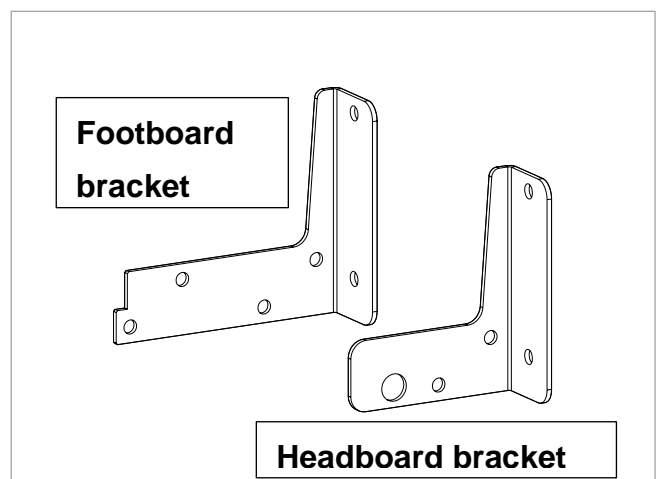

Figure 8.2
3. The headboard and footboard brackets have different fixing holes as shown in Figure 8.2.